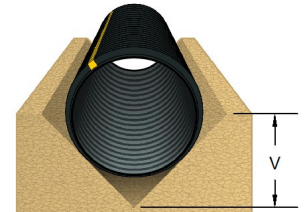

Figure 1: V Groove for 3”- 8” Pipe
- The 90-degree “V” groove trench bottom as shown in Figure 1 is acceptable for pipe diameters less than or equal to 8”.